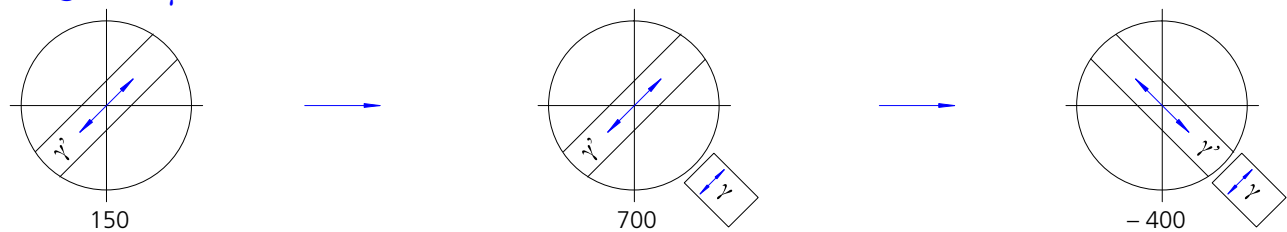

Fig. 119 Determining the n_γ direction of oscillation using a synthetic fiber as an example
- Activate the clickstop and turn the stage by 45° to the next clickstop so that the longitudinal axis of the fiber is oriented in the NE-SW direction (Fig. 119). Here, the object displays maximum brightness (diagonal position), e.g. gray-white.
- This color corresponds to a path difference of 150 nm in the Michel-Lévy color chart (Fig. 119 and Fig. 120).